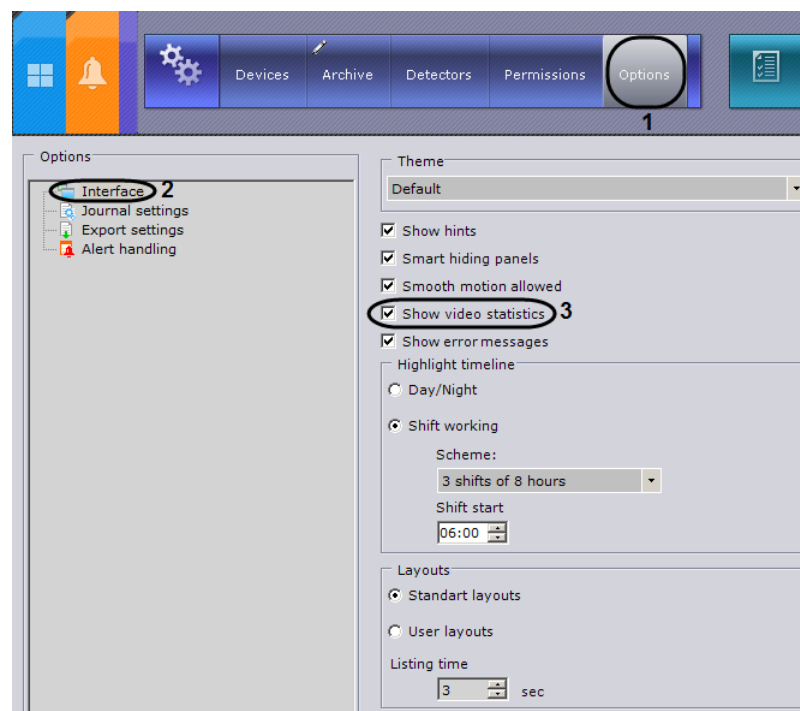

Fig. 6.6—6 Configuring display of video statistics
1. Go to **System settings**⇒**Options**⇒**Interface** (Fig. 6.6—6, 1-2).
2. Select the **Show video statistics** checkbox (see Fig. 6.6—6, 3).